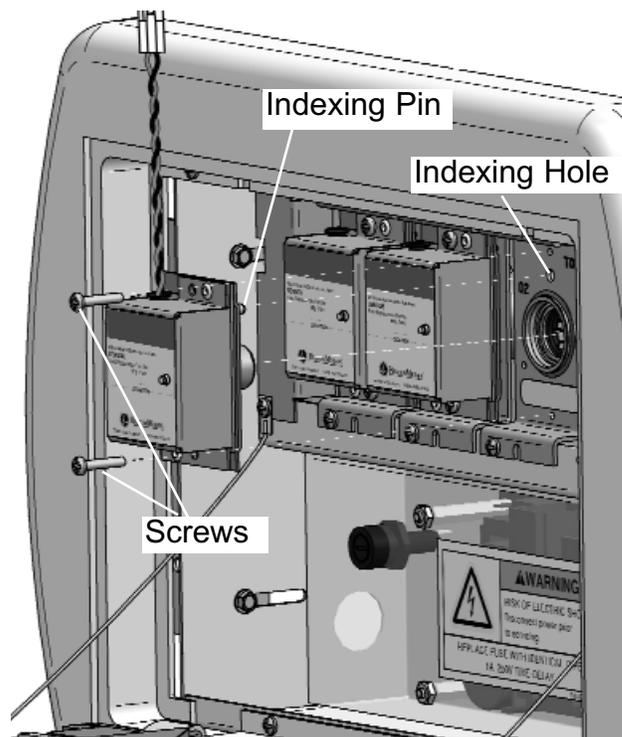

Figure 33: Local Sensor Mounting
2. Insert sensor into valve opening in pressure/vacuum service rough-in (Figure 33). An indexing pin provides for proper orientation and prevents gas service cross-connection. Push sensor all the way in and secure with (2) #6-32 x 1-1/4" screws. Repeat this process for all sensors within alarm panel.